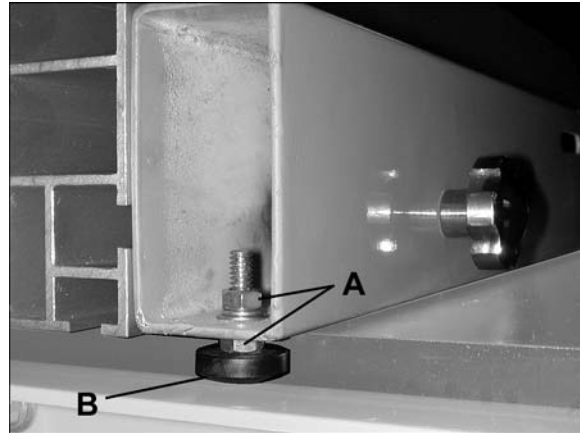

Figure 11
- And/or...Adjust the back end of the fence by loosening one hex nut and tightening the other (A, Figure 11) in order to raise or lower the sliding pad (B, Figure 11) as needed. When the fence-to-table gap is equal, make sure both hex nuts are tightened against the fence body.